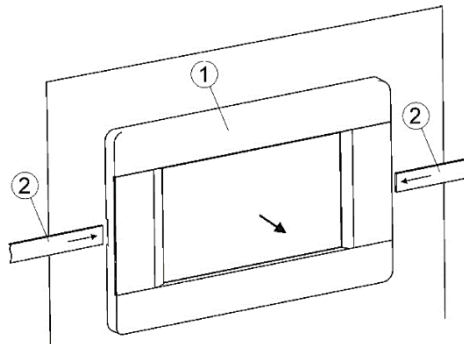

Figure 10. Removing the control panel
To replace the control panel (1), the panel must be removed from the boiler door cover by inserting suitable flat objects (2) into the slots shown in Figure 10. This will cause the panel stops to dislodge and allow the panel to be removed.